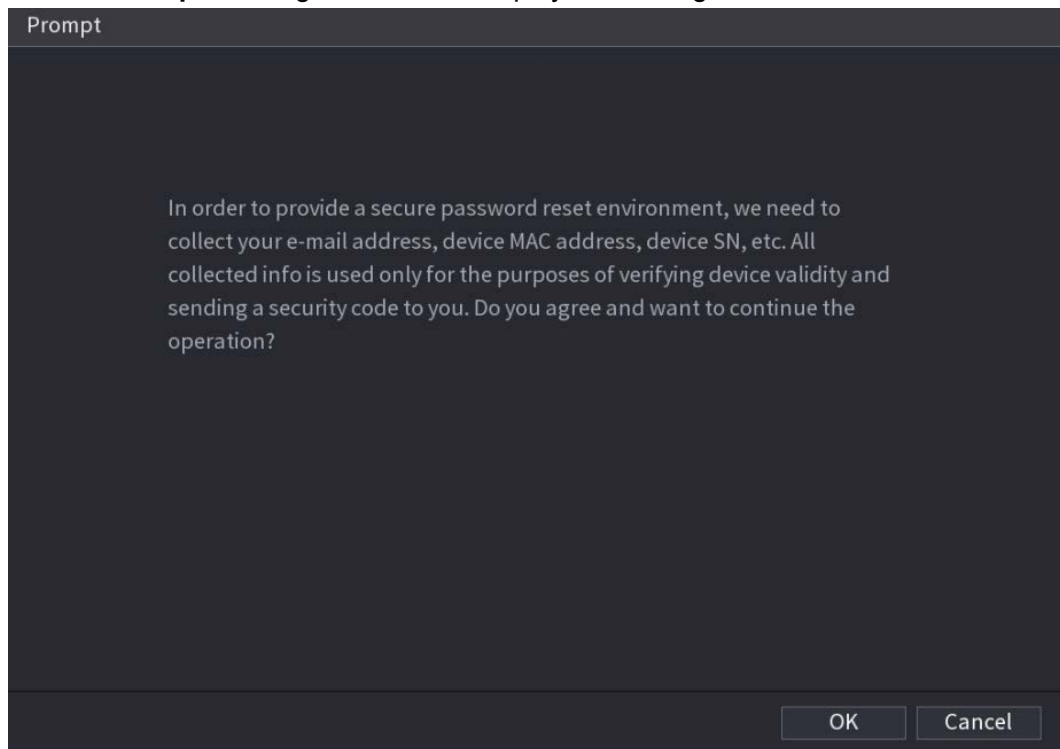
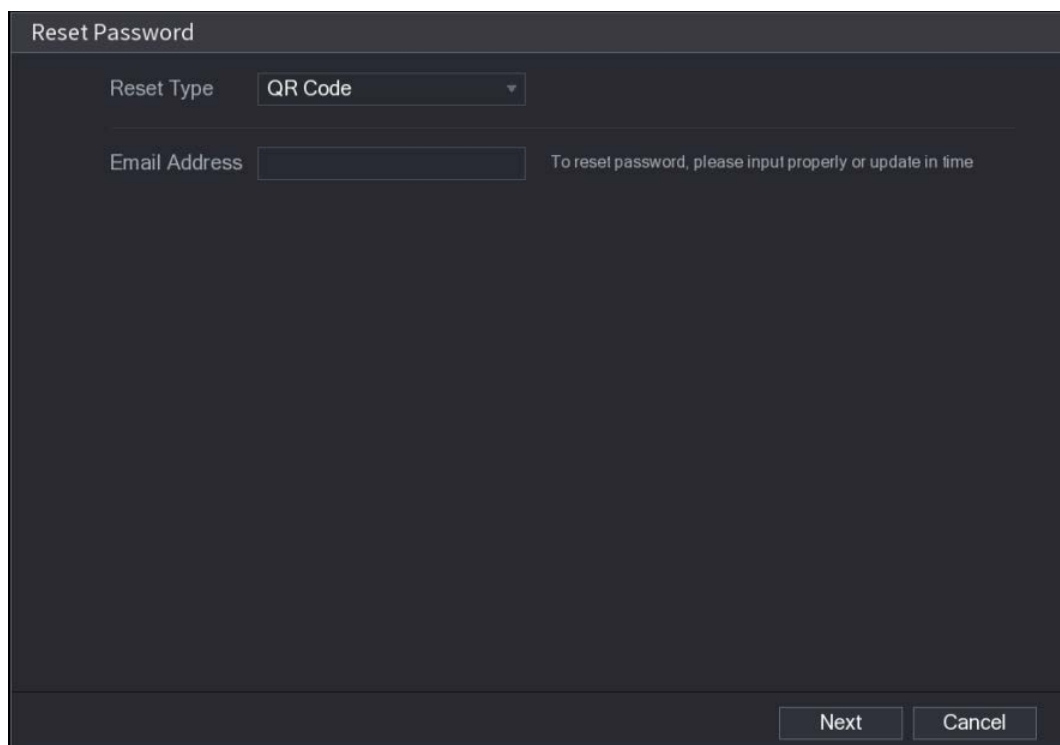

Figure 5-7
Figure 5-8
- If you have set the reserved email address, the **Prompt** message interface is displayed. See Figure 5-7.
- If you did not set the reserved email address, the email entering interface is displayed. See Figure 5-8. Enter the email address, and then click **Next**, the **Prompt** message interface is displayed. See Figure 5-7.
- 1) On the **Reset password** interface as shown in Figure 5-8, in the **Reset Type** list, select **Security Questions**, the Security Questions interface is displayed, see Figure 5-10.